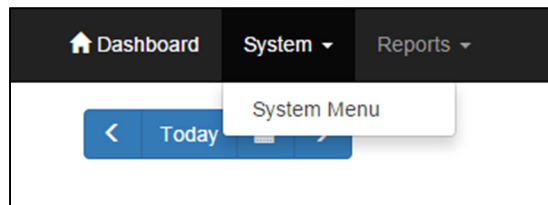

Figure 16. Choose System Menu Screen
5. Click on “System Menu” under the System Tab as shown in Figure 16.